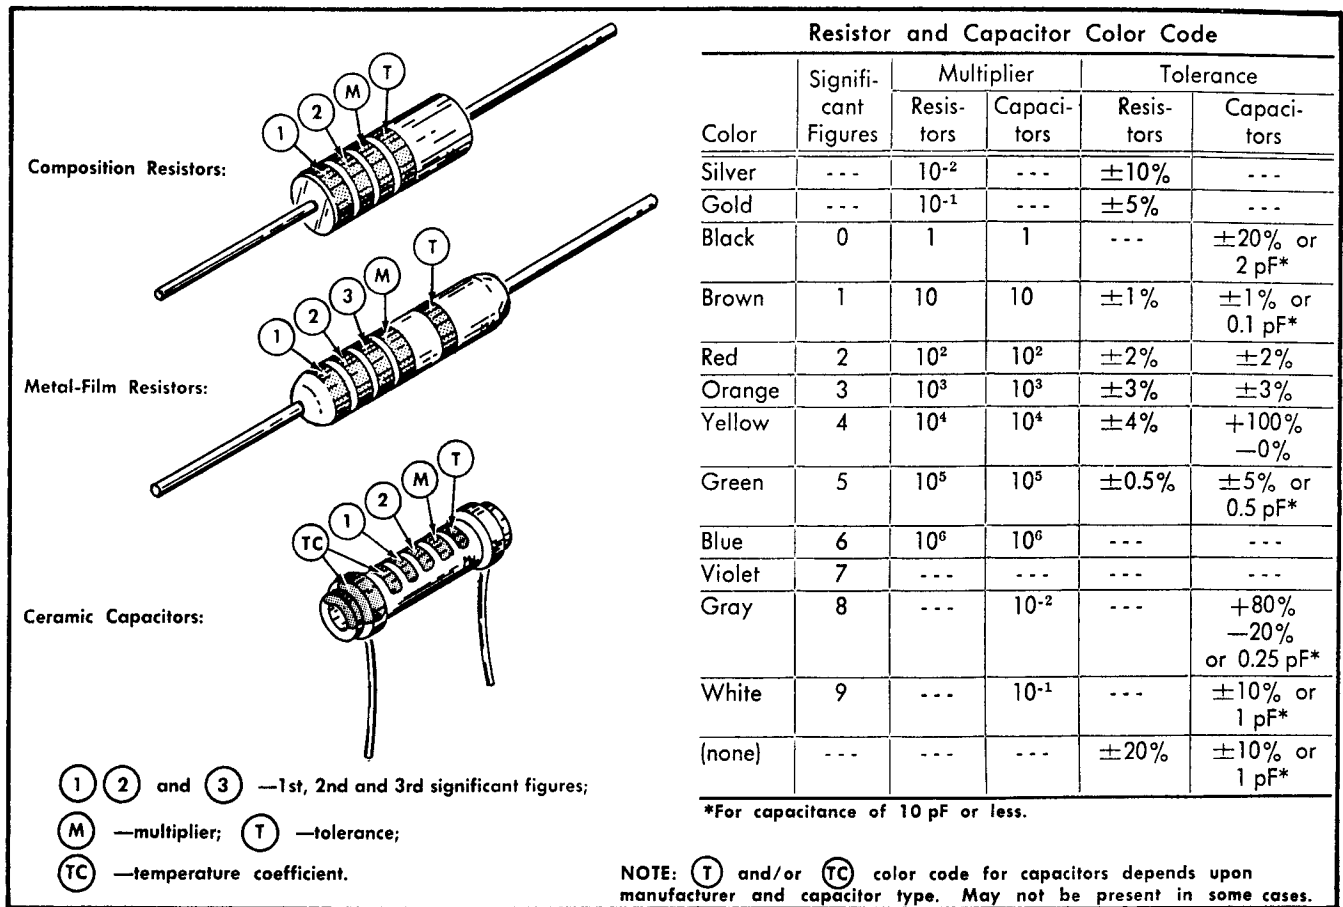

Fig. 4-1. Color-code for resistors and ceramic capacitors.
**Resistor Color Code.** In addition to the brown composition resistors, some metal-film resistors (identifiable by their gray body color) and some wire-wound resistors (usually light blue or gray-green) are used in the 454A. The resistance values of wire-wound resistors are printed on the body of the component. The resistance values of composition resistors and metal-film resistors are color-coded on the components with EIA color-code (some metal-film resistors may have the value printed on the body). The color-code is read starting with the stripe nearest the end of the resistor. Composition resistors have four stripes which consist of two significant figures, a multiplier and a tolerance value (see Fig. 4-1). Metal-film resistors have five stripes consisting of three significant figures, a multiplier and a tolerance value.
**Capacitor Marking.** The capacitance values of common disc capacitors and small electrolytics are marked in microfarads on the side of the component body. The white ceramic capacitors used in the 454A are color coded in picofarads using a modified EIA code (see Fig. 4-1).